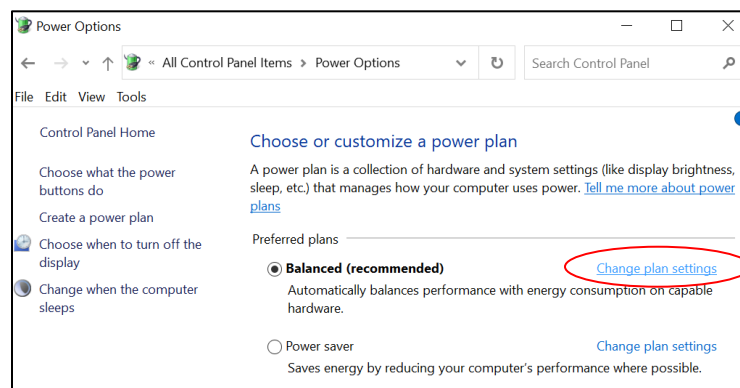

Figure 12: Power Options Window
3. Select **Change plan settings** for your power plan. Refer to Figure 12.